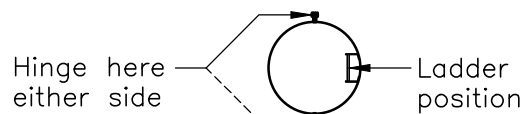

Fig.2
8. For all other covers the orientation should be so that the cover hinge is at 90 degrees from the ladder, Either side. (Refer Fig 2)
5. For all other covers the orientation shall be so that the cover hinge is at 90 degrees from the ladder, either side. (Refer Fig.2)